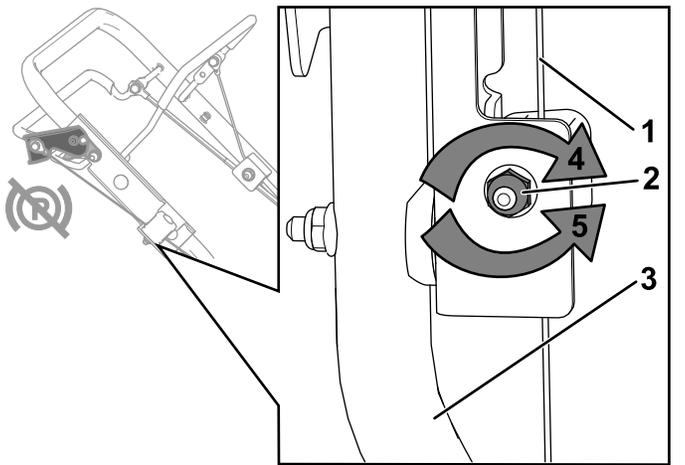

Figure 40
2. Turn the adjustment nut counterclockwise to loosen the cable adjustment (Figure 40).
- Adjust the tension on the cable (Figure 40) by pulling or pushing the cable jacket and holding that position.